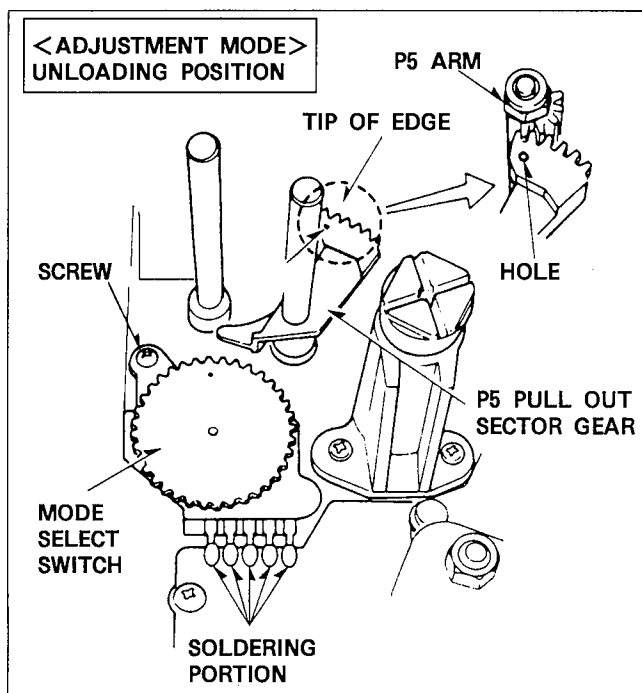

Figure M47
3. Install the P5 Pull Out Sector Gear so that the hole of P5 Pull Out Sector Gear aligns with the tip of gear at P5 Arm as shown in Figure M47.